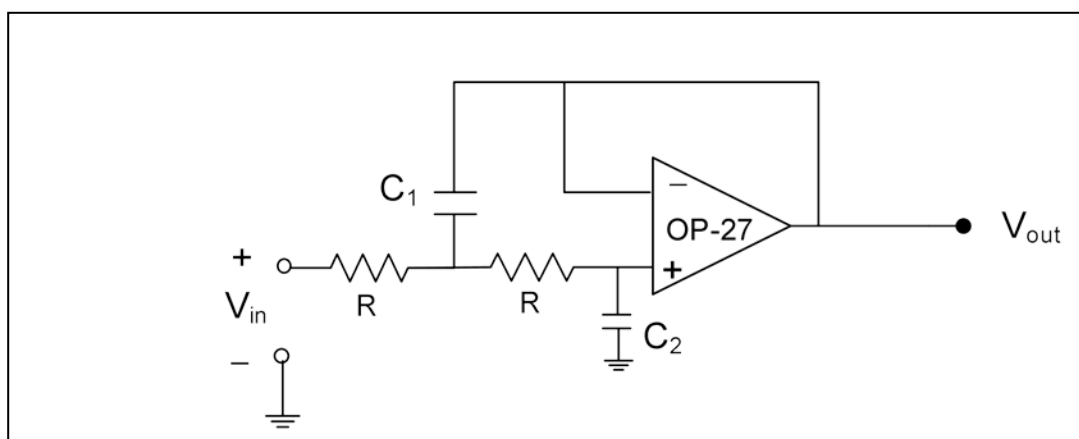

Figure 2. 2nd order op-amp low pass filter.
In this part of the lab, you will design and build a second order active Butterworth low pass filter, based on the 2nd order op-amp low pass filter circuit shown in Fig. 2. Here are a few facts about Butterworth low pass filters. For more details please see the filter design background reading assignment posted at the EE352 course website.
Figure 2 shows a second order active low pass filter. It can be shown that the transfer function of this filter is
- After verifying that the order N of your Butterworth filter is $N = 2$, select component values R , C_1 and C_2 so that your Butterworth filter can be implemented with the circuit in Figure 2.
1. Construct the circuit shown in Figure 2 using the component values you selected in part (b) of the pre-lab. Make sure that the OP27 is connected to +12V and -12V power supplies and its ground is connected to the ground of the rest of the circuit. Measure and record the values of R , C_1 and C_2 in your lab notebook. Since your RLC circuit from Part I should still be on your breadboard, make sure that your Butterworth filter circuit is constructed on a different section of your breadboard than the circuit of Part I.